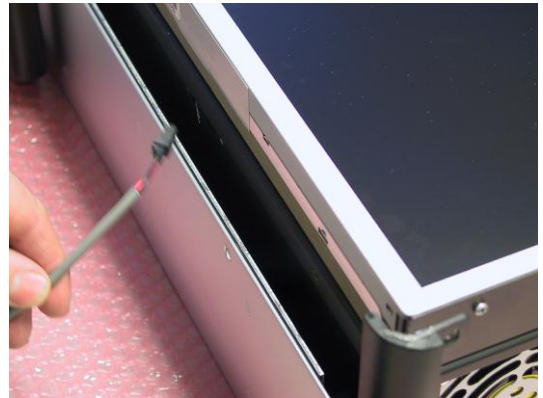

**Figure 4-35**
- 4) Gently lift the monitor bezel away from the main chassis. Observe the soft power cable as illustrated in Figure 4-35.